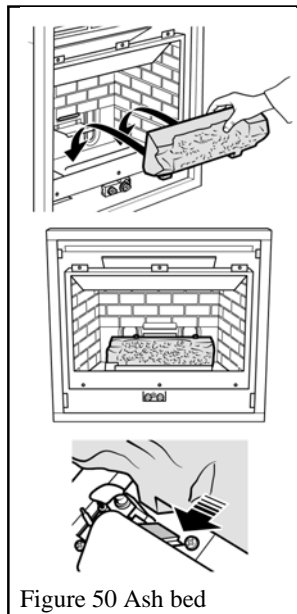

Figure 50 Ash bed
1. Place the ash bed in position. The projections at the front of the ash bed locate against the sloping metal stops immediately behind the burner. See figure 50.